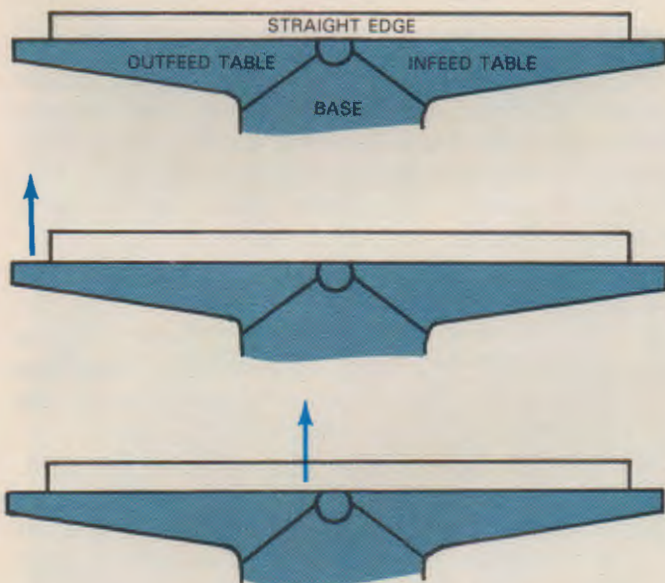

Fig. 23-27. Inspect whether infeed and outfeed tables are parallel. Adjust the outfeed table as necessary.
3. Look between the straightedge and the tables, Fig. 23-27. There should be no light passing through.